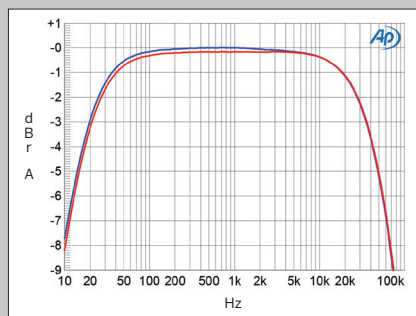

Fig.10 Western Electric 91E, phono input, response with RIAA correction (left channel blue, right red) (1dB/vertical div.).
The input impedance was 42k ohms at 20Hz and 1kHz, 34.3k ohms at 20kHz (MM) and 993 ohms at 20Hz, 979 ohms at 1kHz, 968 ohms at 20kHz (MC). The phono input's RIAA error was very low, with very good channel matching (fig.10), though the low and high frequencies rolled off a little, reaching -1dB at 35Hz and 20kHz. Set to MM, the wideband, unweighted S/N ratio with the inputs shorted to ground and the volume control set to the maximum was a good 67dB (average of both channels), ref. 1kHz at 5mV. Restricting the measurement